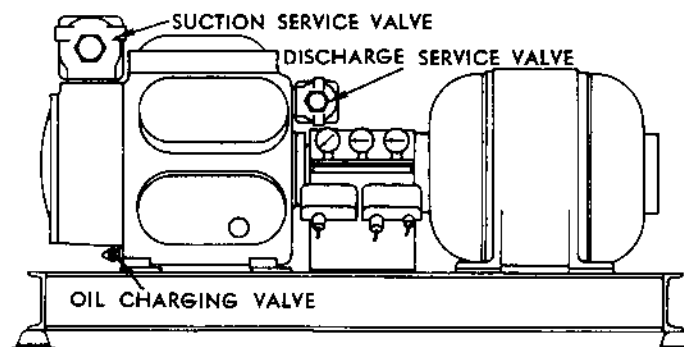

FIGURE 1 — Compressor Unit
4. Back-seat the compressor suction and discharge service valves and then crack them off the back-seat to open the suction and discharge pressure gauge lines to system pressures (see Figure 1 and 2).